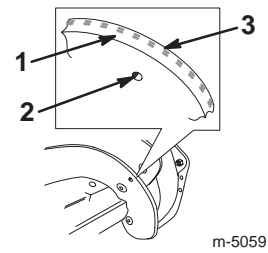

Figure 15
1. Examine a new rotor blade edge for the difference in the thickness of the rubber layers (Fig. 15).
Install the rotor blades with the thick rubber layer on the *inside* of the curve (Fig. 15). If you do not install the rotor blades properly, they will wear out more quickly.